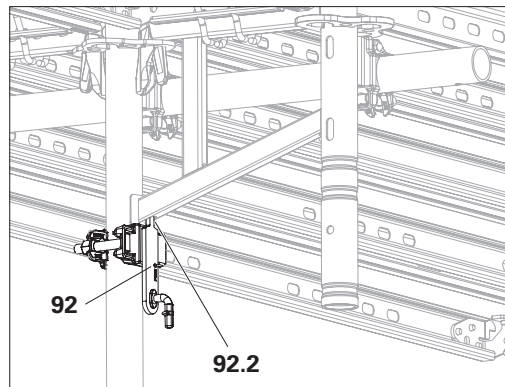

Fig. A6.09
1. Fit Guardrail Coupling EPW (**92**) with lug (**92.2**) facing upwards. Nose must engage in the brace of the console bracket. (Fig. A6.09)